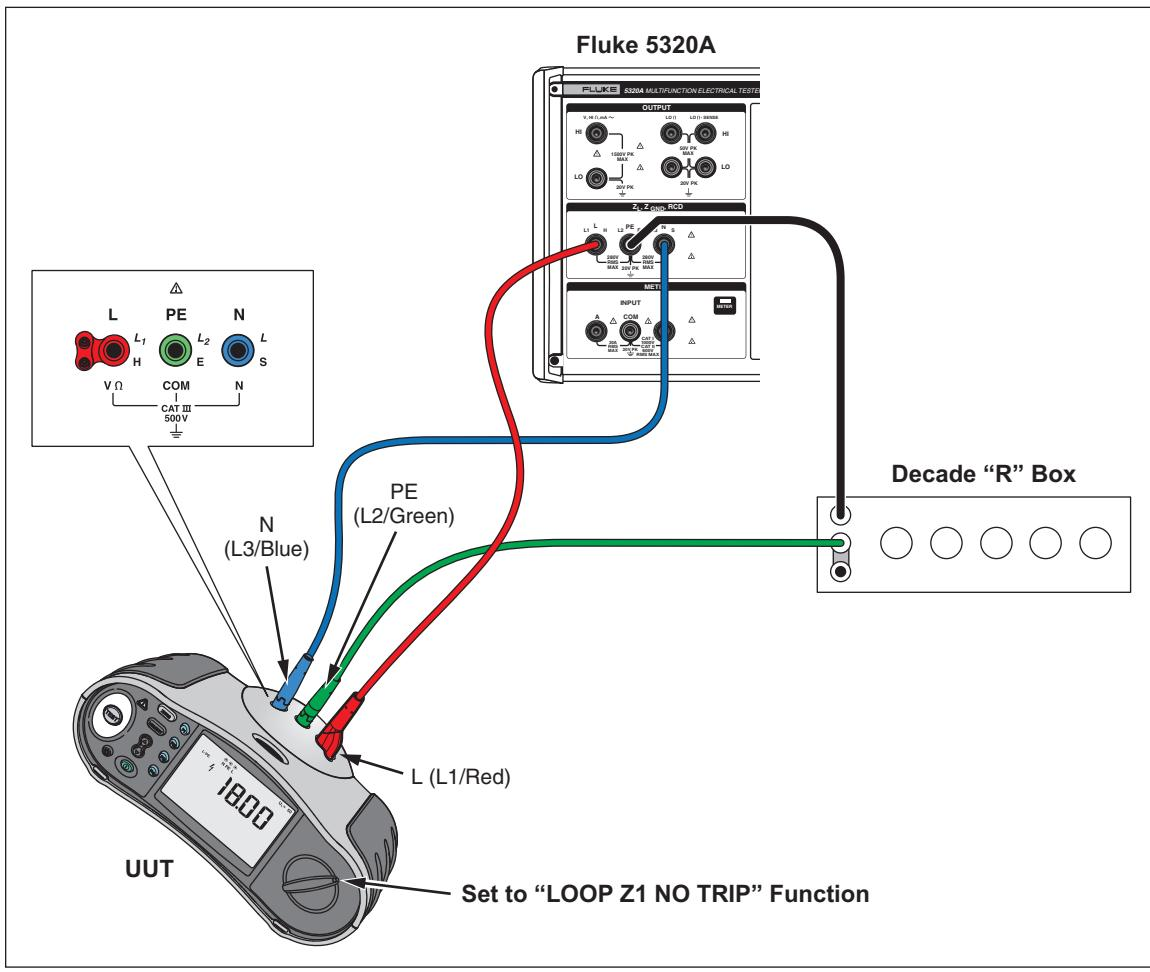

Figure 7. LOOP Z_l NO TRIP Test
1. Connect the test leads to the UUT, Decade R Box, and 5320A, as shown in Figure 7.
Before performing the following test, remove the Decade R Box used in Figure 7. Failure to do so will result in damage to the decade resistors. Setting the function switch to the LOOP Z HI CURRENT function, or selecting L-N test with **F1**, will result in damage to the Decade Resistor Box when **TEST** is performed.